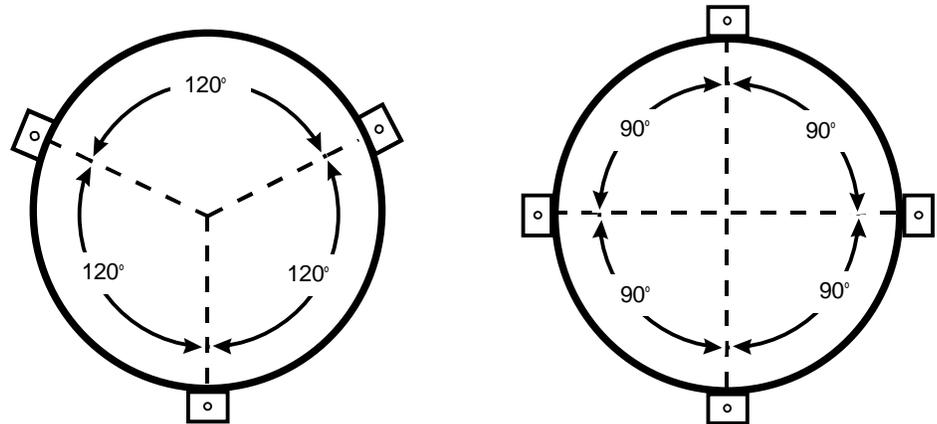

Figure 11-2: Plan View of Recommended Weigh Module Arrangements
1. Position the tension weigh modules around the tank so that each will support an equal portion of the tank's weight (see Figure 11-2). Make sure that the upper and lower support brackets line up with these positions.